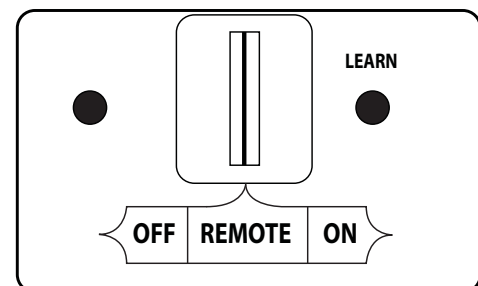

Fig. 21-2 Remote receiver detail (REMOTE)
1. Ensure the pilot is burning. Then locate the 3-position switch on the remote receiver (see Fig. 21-2), and slide the switch to the **REMOTE** position.